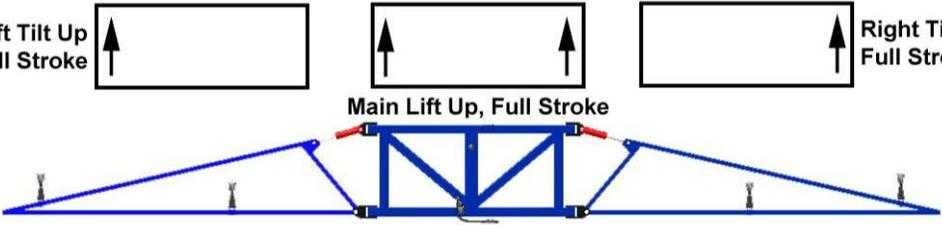

Figure 5: Pre-Install Boom Speeds
5. Not all sprayers will have the functions listed below in **Figure 5**.